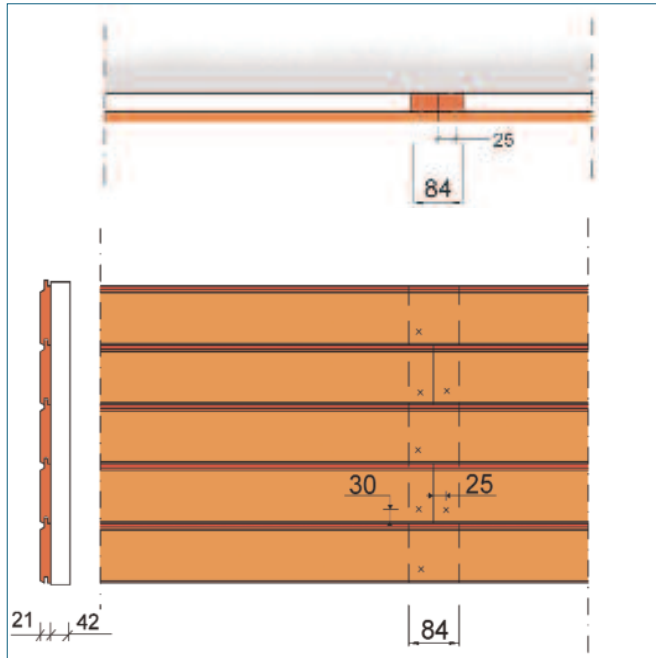

Figure 3.
10. Where boards are butt-jointed the junction should always occur over battens. If 42mm wide battens are used, it will be necessary to double batten the position where cladding boards meet to assure that nail fixing is at least 25mm from the end of the board (See figure 3).